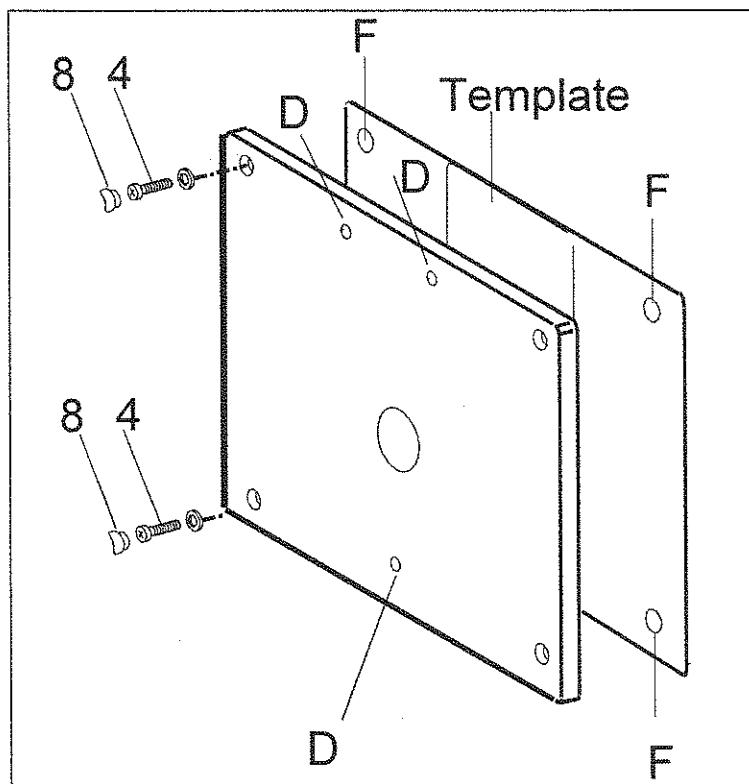

Figure 6-4
1. Referring to Figure 6-4 below, mark 4 holes "F" on the wall, 57" (1450 mm) from top of 16" on center wall plate to floor. Use template supplied (code 39609246).